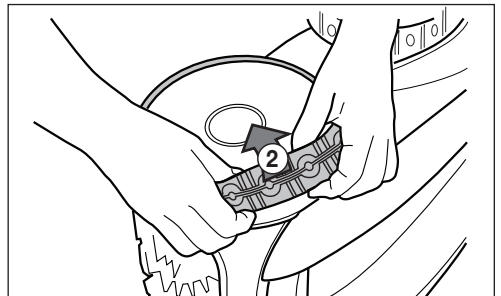

Figure 30. Remove the Old Tyre
2. Remove the old tyre. See *Figure 30*.